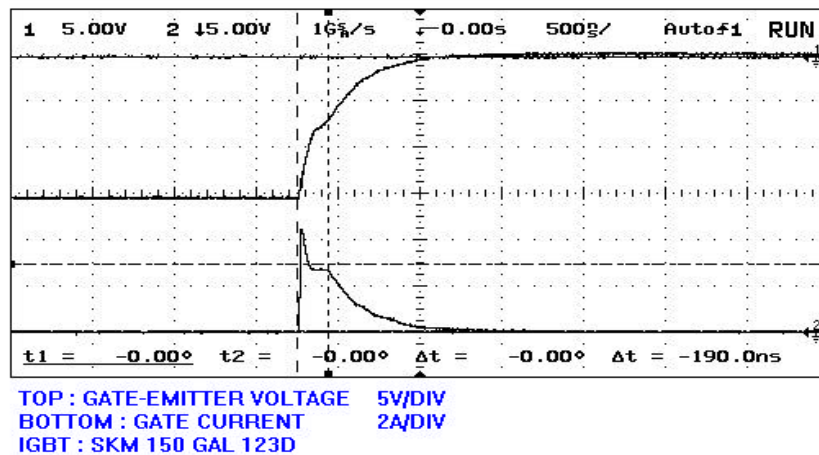

Figure 4
When selecting the gate turn on and turn off resistors, the user tries to charge/discharge the IGBT's gate as quickly as possible in order to reduce the switching losses. However it is important to acknowledge that extremely fast turn on of the IGBT will cause a high overcurrent due to the turn-off behavior of the freewheeling diode of the other IGBT in the arm. The limited di/dt capability of the free-wheeling diode is usually the main factor that dictates the maximum turn-on speed of a given IGBT; often in trying to speed up the IGBT switching time the diode will fail in overvoltage or the losses will increase because the diode cannot turn off fast enough and therefore a short circuit path is being developed between the IGBT that turns on and the free-wheeling diode that turns off. Another important aspect is to minimize the parasitic inductance in the DC link circuit in order to keep the turn off overvoltage of the IGBT within the maximum value specified in the data sheet of the IGBT. Low inductance snubber capacitors and low inductance distributed bus bar layout are mandatory at current levels above 50 Amps. Careful analysis and correct interpretation of both drive and IGBT's data sheets are required in order to correctly choose the gate resistor values. Figures 4,5 and 6 depict typical waveforms when switching an IGBT:
- In figure 4 the gate current charging is displayed along the gate emitter voltage. Note that the current peak is a function of the gate resistor.